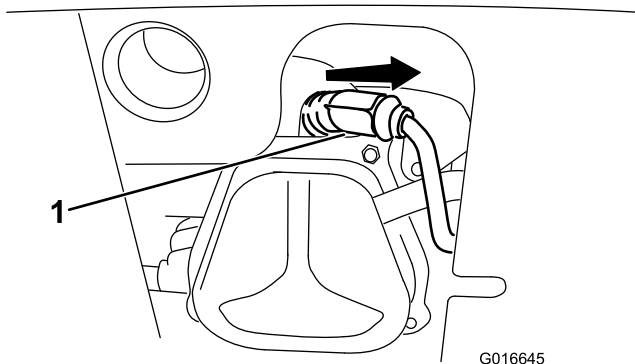

Figure 48
- Remove the boot (Figure 48).